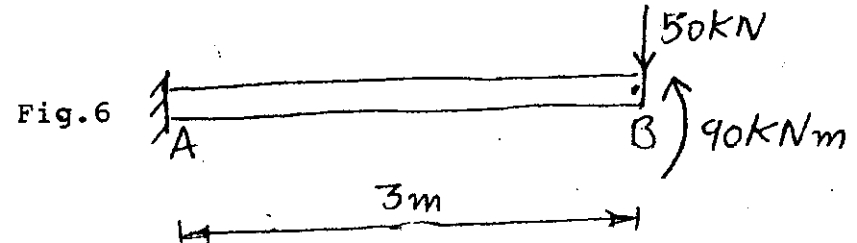

Fig.6
Determine the slope and deflection at end B of the prismatic cantilever beam AB when it is loaded as shown in Fig.6, knowing that the flexural rigidity of the beam is $EI = 10 \text{ MN m}^2$. Use Moment - Area method. (20)